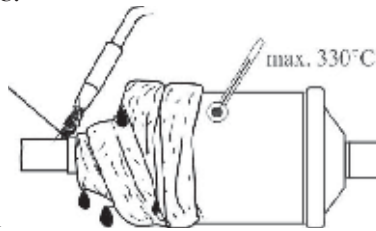

Fig.1
1. Brazing Connection: (Fig.1)